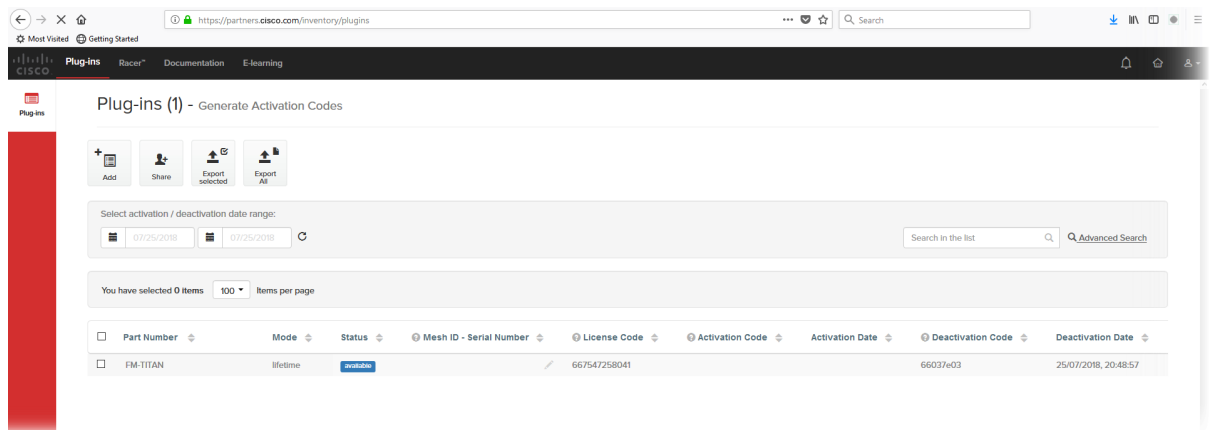

Figure 71. Partner Portal (Plug-ins web page)
- The Plug-ins web page will be shown (Figure 71 \(page 158\)).